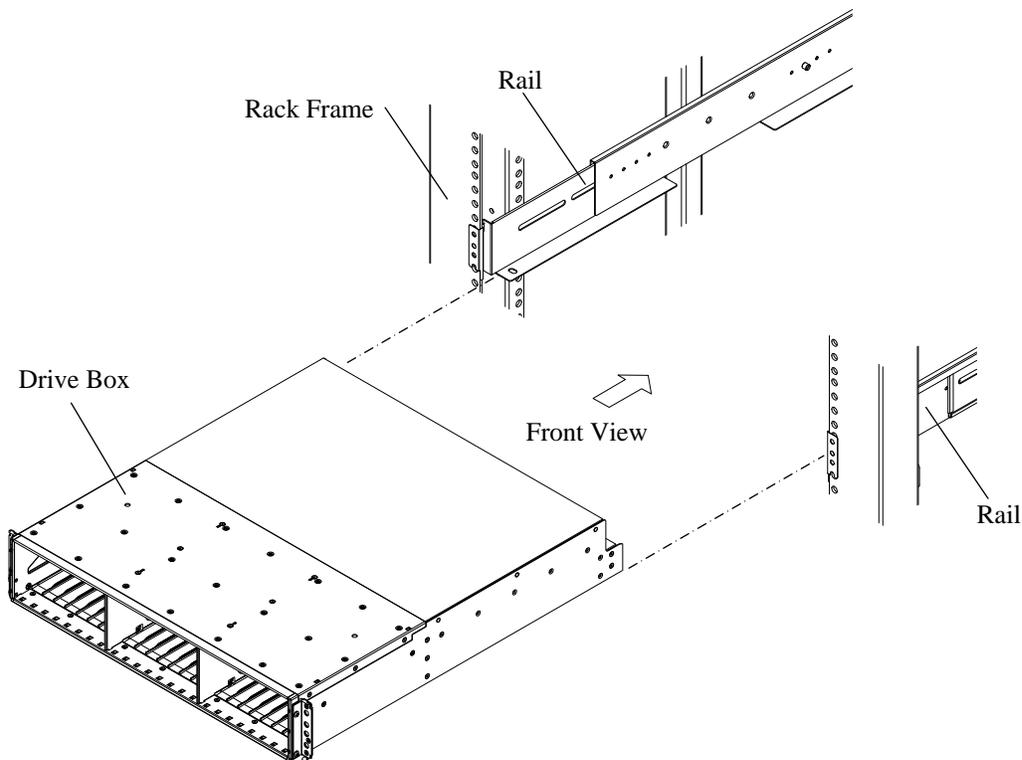

Fig. 3.41.1-10 Removal of Drive Box
- f. Install the Drive Box with the brackets. Fasten the Drive Box to the rack frame with the screws. (See Fig. 3.41.1-9.)
- g. Attach the two side bezels to the front side of the Drive Box. (See Fig. 3.41.1-7 and Fig. 3.41.1-8.)